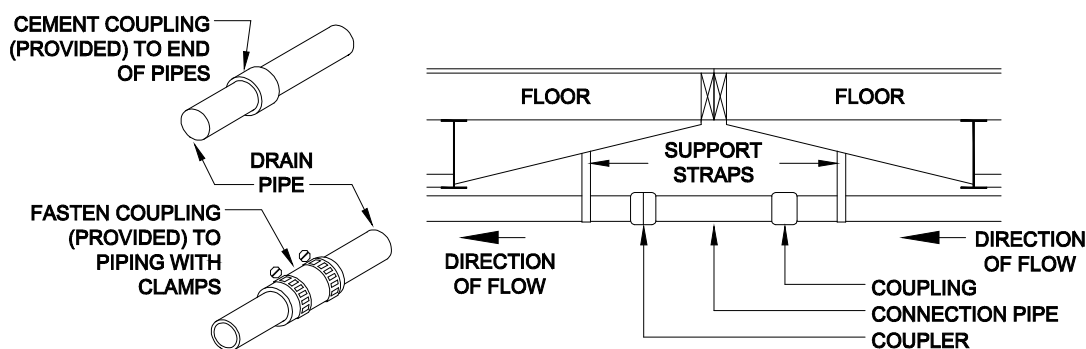
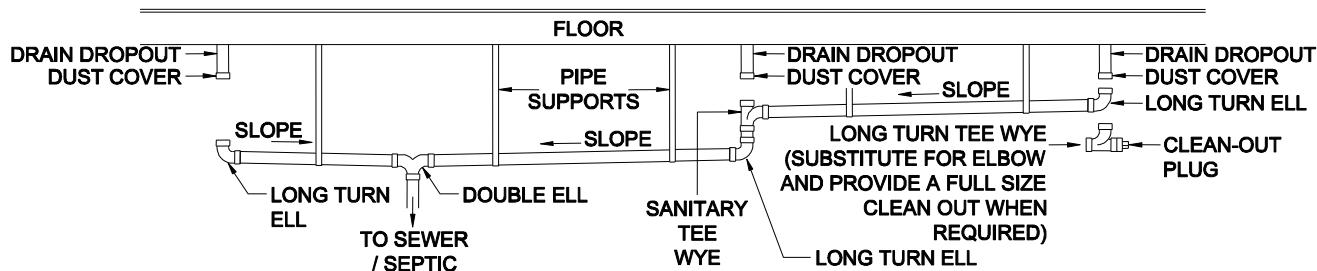

Figure 46. Drain crossover connection
Figure 47. DWV system
2. **Assemble pipes.** Using the drain schematic drawing provided with the home, begin assembling the DWV system starting at the location farthest from the sewer/septic connection and working towards the outlet, fastening the pipe with cement or adjustable screw-clamp connectors, if provided (**Figure 46**). As the system is assembled, support the piping with temporary blocking. Unless otherwise noted on the schematic diagram, provide a minimum 1/4 inch per foot slope towards the sewer/septic using a plumber's level. Where a slope of 1/4 inch per foot cannot be maintained, use a minimum slope of 1/8 inch per foot and install of a full-size clean-out at the uppermost point of the run (**Figure 47**).